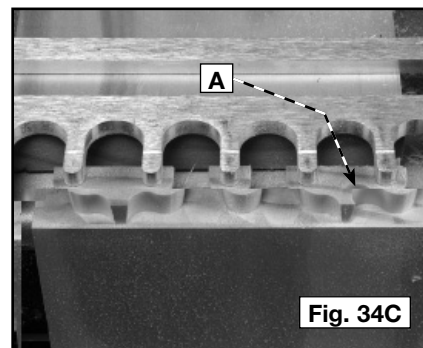

Fig. 34C
- Step 4** - The joint will hide any accidental excess material cut (A) Fig. 34C.